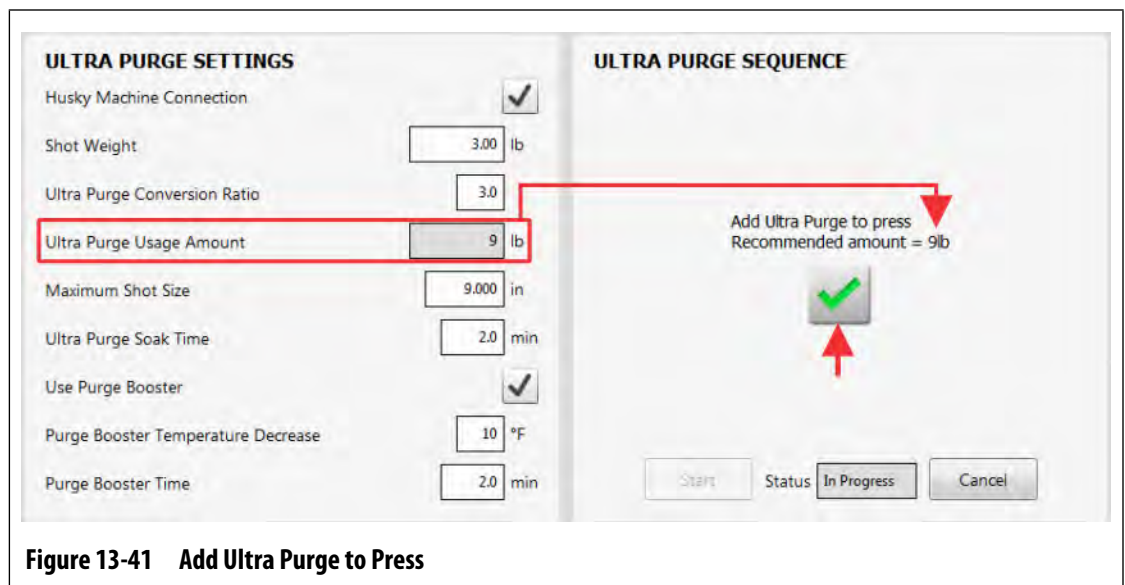

Figure 13-41 Add Ultra Purge to Press
- 7. Add the recommended amount of Ultra Purge compound to the IMM (refer to Figure 13-41).